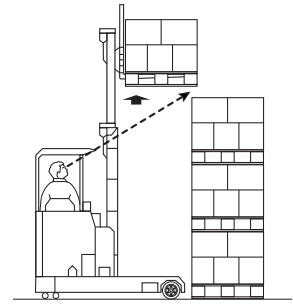

Figure 14
- (b) Slow down and stop at the face of the stack, apply the parking brake, select neutral if applicable, and reduce the backward tilt to an amount just sufficient to maintain the load stability. Look up and check for obstructions, then raise the load to the desired stacking height (Figure 14);